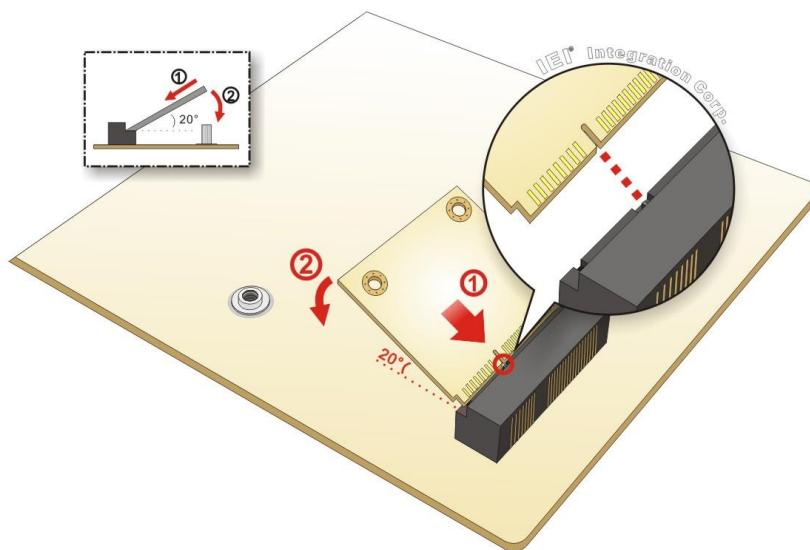

Figure 4-12: Inserting the Half-size PCIe Mini Card into the Slot at an Angle
Step 5: Insert into the socket at an angle. Line up the notch on the card with the notch on the slot. Slide the PCIe Mini card into the slot at an angle of about 20° (**Figure 4-12**).